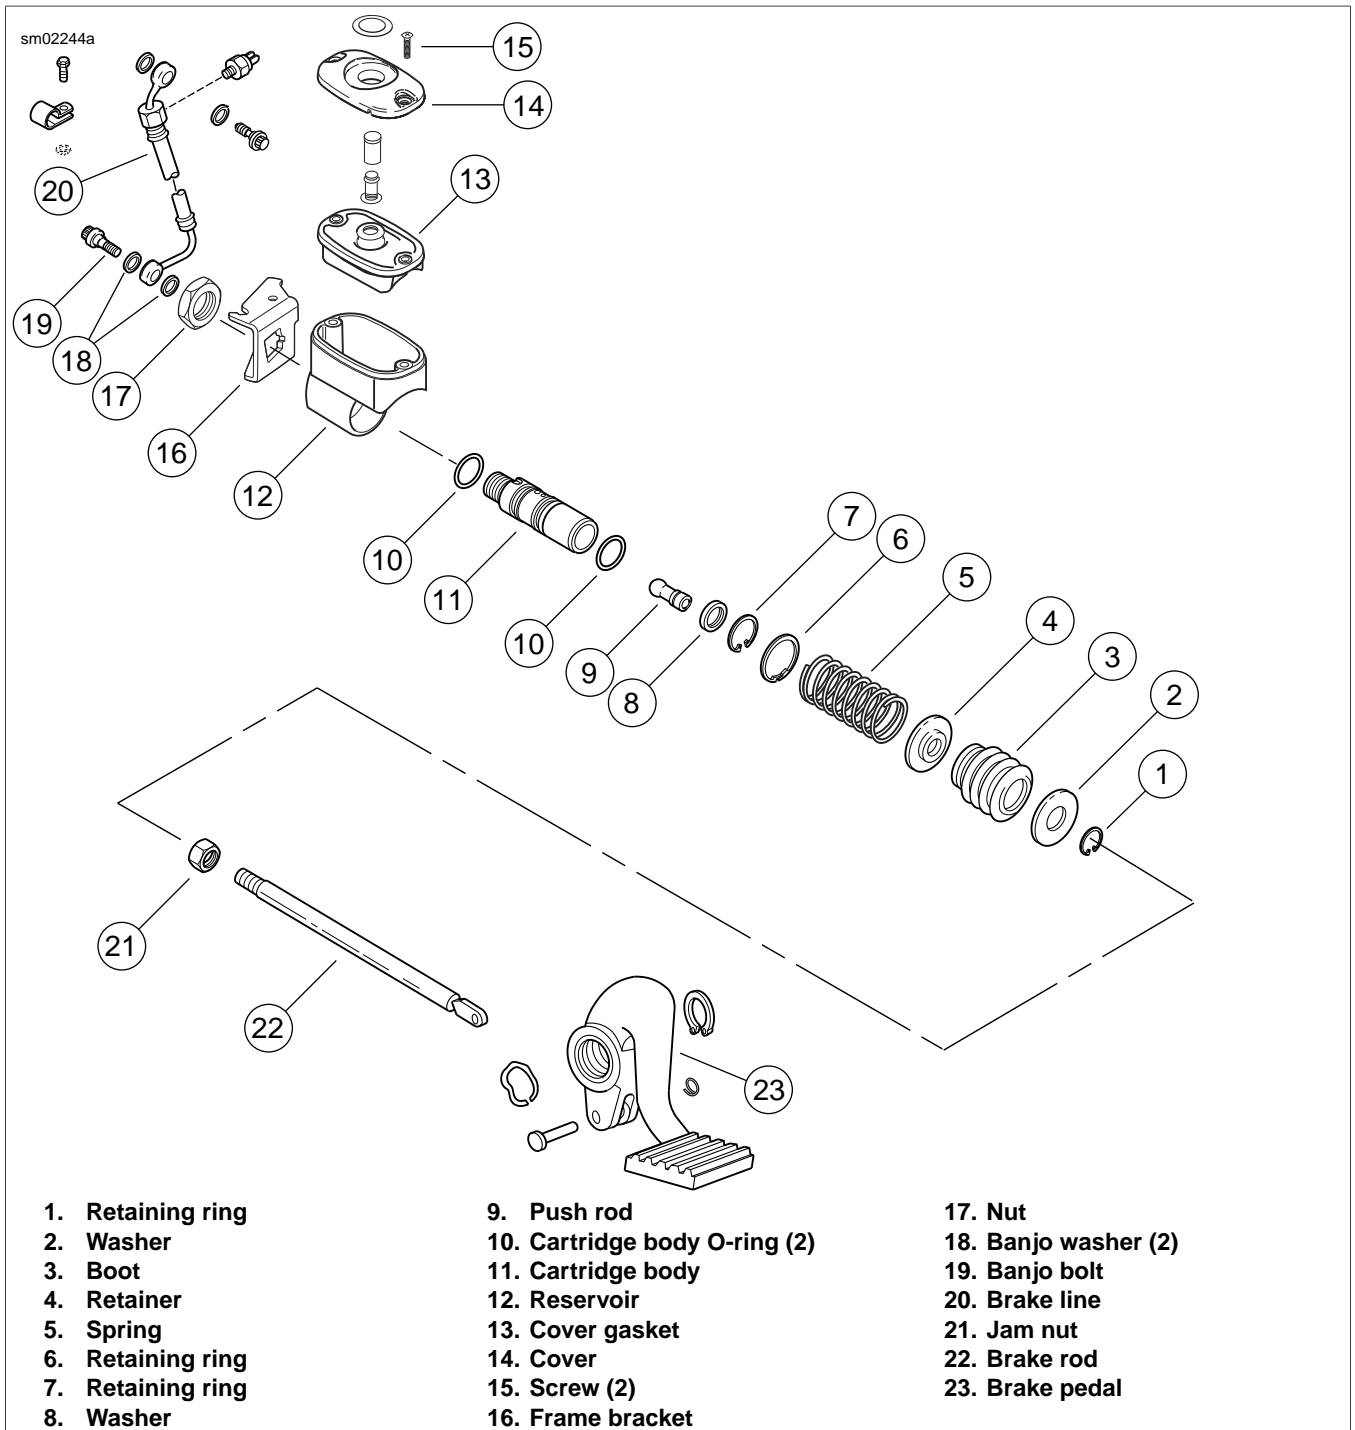

Figure 2-74. Rear Brake Master Cylinder
1. See Figure 2-74. Remove banjo bolt (19) and banjo washers (18). Discard washers.
2. Remove master cylinder mounting nut (17).
3. Loosen jam nut (21) on threaded brake rod (22).
4. Unscrew push rod (9) from brake rod.
2. See Figure 2-74. Thread banjo bolt (19) into the cartridge body (11).
3. Remove boot (3) from groove in master cylinder/reservoir (12). Set master cylinder/reservoir upright with banjo bolt (12). Set master cylinder/reservoir upright with banjo bolt resting on bench and push master cylinder/reservoir down and off the cartridge body.
5. Press down on large washer (2) to compress spring (5), keep spring compressed and remove retaining ring (1) from groove in push rod (9).
6. Carefully release spring and remove washer, boot, spring retainer (4) (inside boot) and spring.
7. Remove and discard retaining ring (7) from bore of cartridge body and remove push rod and washer (8).
2. See Figure 2-74. Inspect reservoir bore (12) for scratches. Replace if scratches are present.
3. Check boot (3) for tears and replace if any exist.
4. Inspect threads on cartridge body (11), push rod (9) and banjo bolt (19). Replace any part with damaged threads. Inspect spring for cracks or broken coils - replace if any exist.
5. Carefully remove large O-rings (10) from cartridge body. Do not scratch O-ring grooves. Clean grooves with soft cotton cloth moistened with alcohol. Inspect grooves for scratches and dirt. Remove dirt or replace cartridge body if grooves are scratched.
1. See Figure 2-74. Lubricate O-rings (10) with D.O.T. 4 brake fluid and install in O-ring grooves on cartridge body (11).
2. Lubricate bore of master cylinder/reservoir (12) with D.O.T. 4 brake fluid.
4. Thread banjo bolt (19) into cartridge body and stand master cylinder upright with banjo bolt resting on bench.
5. Place washer (8) on push rod (9).
6. Place a **new** retaining ring (7) on push rod. Insert ball-end of push rod into piston. Push piston downward with push rod until washer is properly seated in the cartridge bore.
9. Install retaining ring (6) in groove on cartridge body.
10. Install on push rod, spring (5), spring retaining washer (4) (large cupped side toward spring), boot (3) with drain hole down, and washer (2).
11. Press down on washer and install retaining ring (1) in push rod groove.
1. See Figure 2-74. Guide threaded end of master cylinder/reservoir (12) through hole in bracket (16). Make sure the square body of the master cylinder/reservoir is engaged in the square hole of the mounting bracket.
2. Install nut (17) and tighten to 30-40 ft-lbs (40.7-54.2 Nm).
3. Thread push rod (9) fully onto brake rod (22). Do not tighten jam nut (21) at this time.
4. Lubricate new steel/rubber washers (18) with D.O.T. 4 BRAKE FLUID. Install brake line (20) using banjo bolt (19) and new steel/rubber washers (18). Position brake line and tighten banjo bolt to 21-25 ft-lbs (28.5-33.9 Nm).